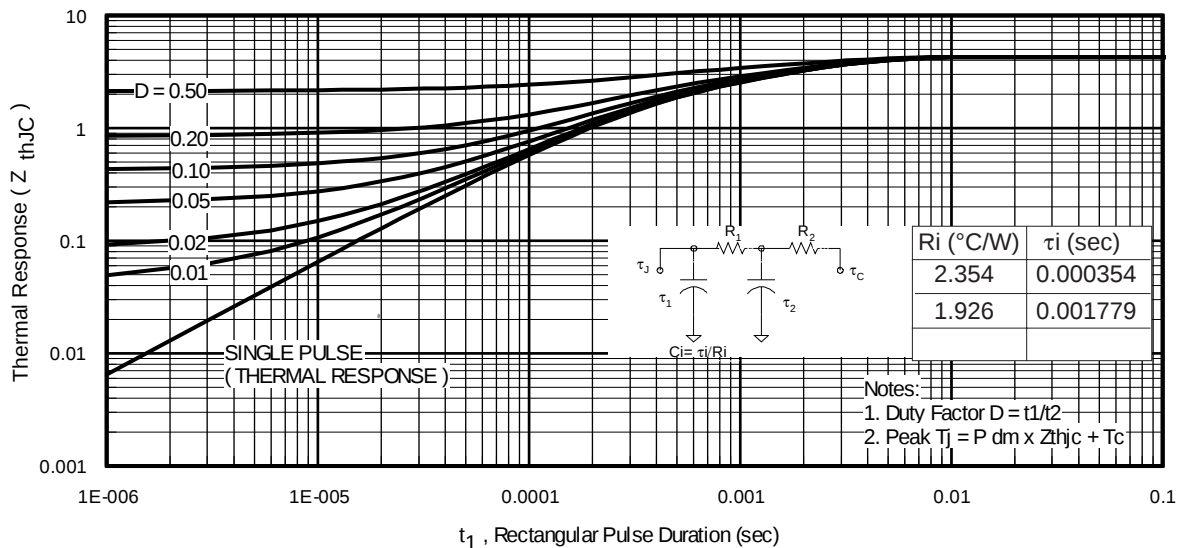

Fig 11. Maximum Effective Transient Thermal Impedance, Junction-to-Case
$Z_{thJC}(D, t_{av})$ = Transient thermal resistance, see figure 11)
- ① Repetitive rating; pulse width limited by max. junction temperature. (See fig. 11).
- ② Limited by T_{Jmax} , starting $T_J = 25^\circ\text{C}$, $L = 0.54\text{mH}$, $R_G = 25\Omega$, $I_{AS} = 9.6\text{A}$, $V_{GS} = 10\text{V}$. Part not recommended for use above this value.
- ③ Pulse width $\leq 1.0\text{ms}$; duty cycle $\leq 2\%$.
- ④ C_{OSS} eff. is a fixed capacitance that gives the same charging time as C_{OSS} while V_{DS} is rising from 0 to $80\% V_{DSS}$.